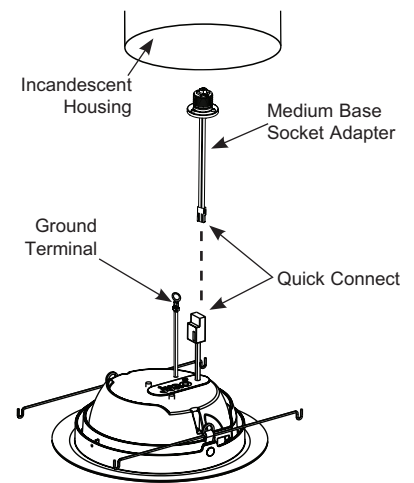

Figure 4
Step 3. Installation into existing housings with medium base sockets: Screw the medium base socket adaptor into the socket in the recessed housing. Securely attach the ground wire terminal to any screw located in the recessed housing that fastens metallic components. Plug the connector provided on the trim to the mating connector on the socket adaptor by pushing firmly to ensure connectors are securely fastened (see Fig. 4).